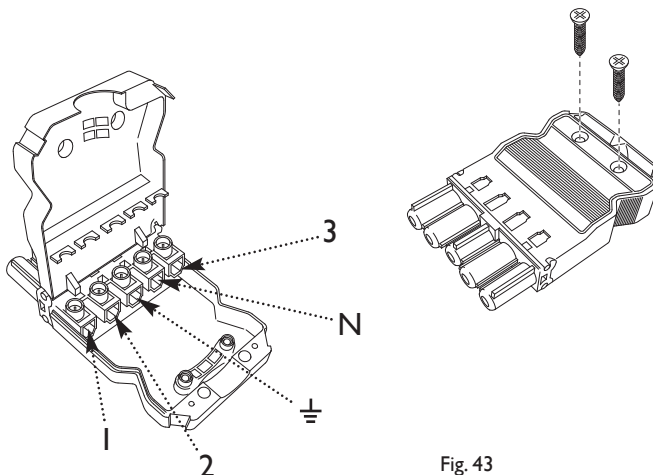

Fig. 43
1. Take the 5 pin plug from the boiler fitting kit, remove the securing screws and hinge the cover open (Fig. 43).